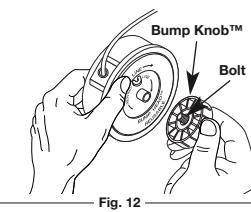

Fig. 12
- Hold the outer spool with one hand and unscrew the Bump Knob **counterclockwise** (Fig. 12). Inspect the bolt inside the Bump Knob to make sure it moves freely. Replace the Bump Knob if damaged.
- Hold the outer spool with one hand and unscrew the bump knob counterclockwise (Fig. 12). Inspect the bolt inside the bump knob to make sure it moves freely. Replace the bump knob if damaged.